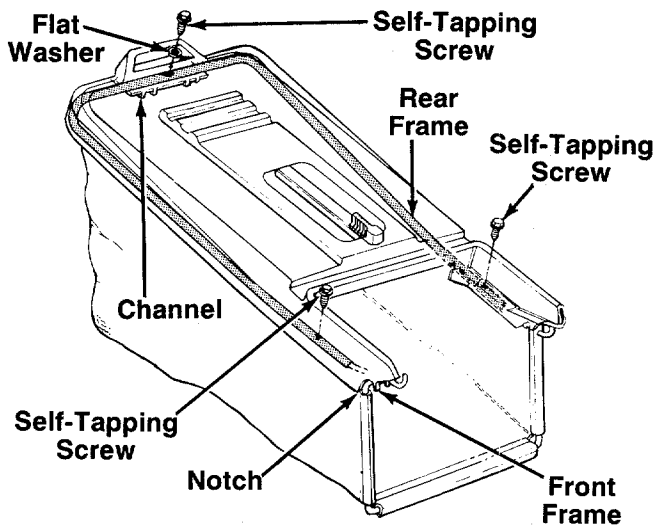

FIGURE 18.
4. Attach the hardtop cover to the grass catcher as follows. See figure 18.
- c. Attach rear of cover to frame using the flat washer and one self-tapping screw as shown in figure 18. Attach the sides of the cover to frame with the other two self-tapping screws.